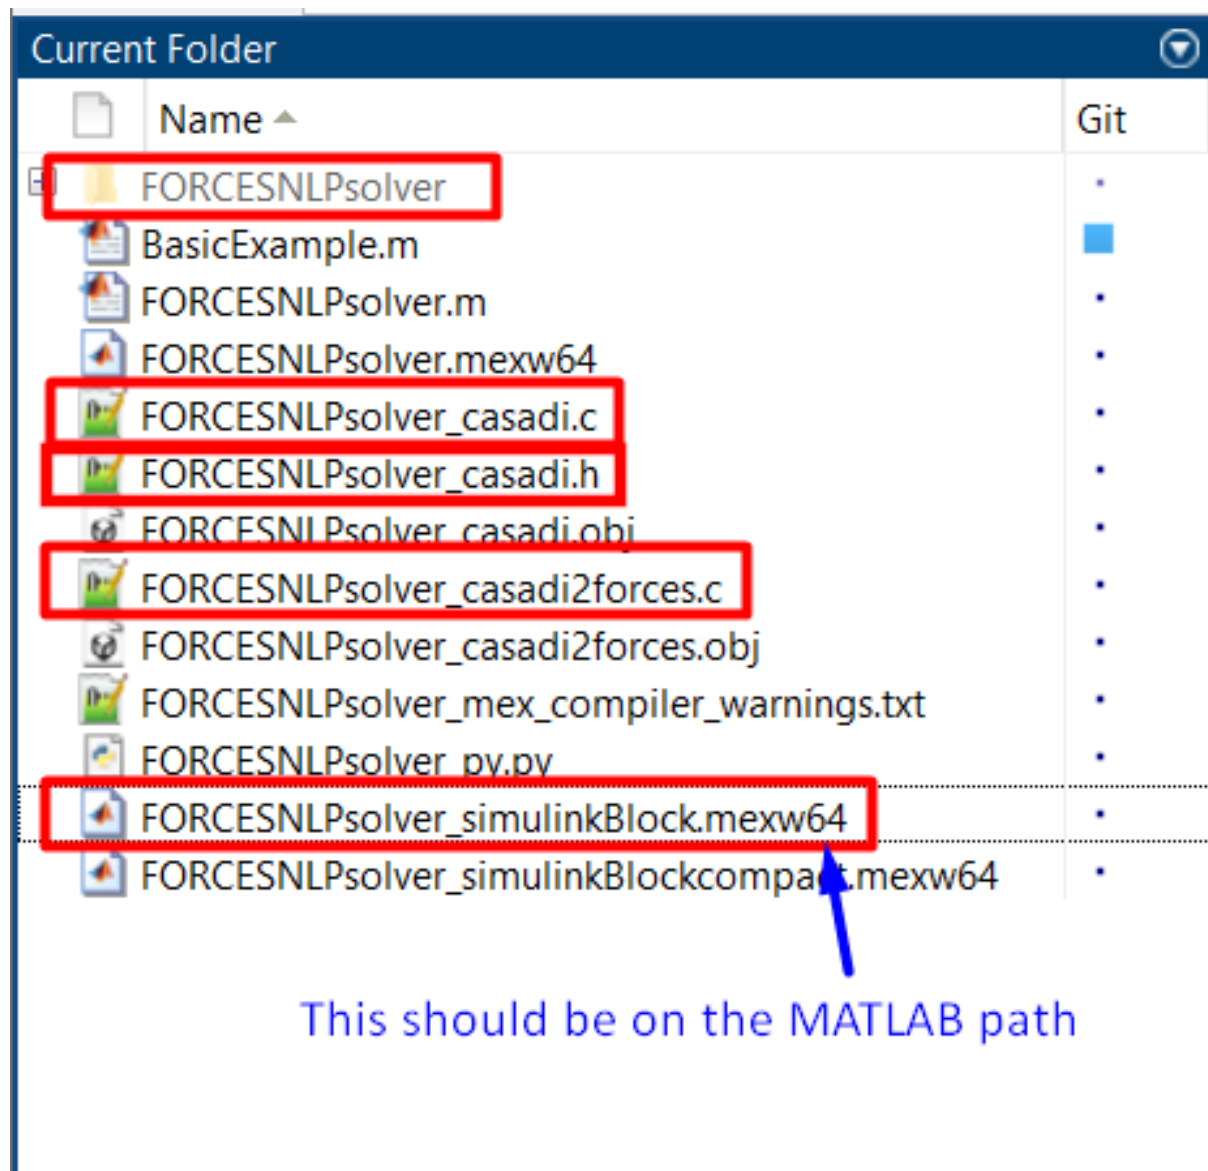

Figure 13.4: Add the folder containing the .mexw64 solver file to the Matlab path.
4. (Figure 13.4) Make sure the FORCESNLPsolver_simulinkBlock.mexw64 file (created during code generation) is on the Matlab path.